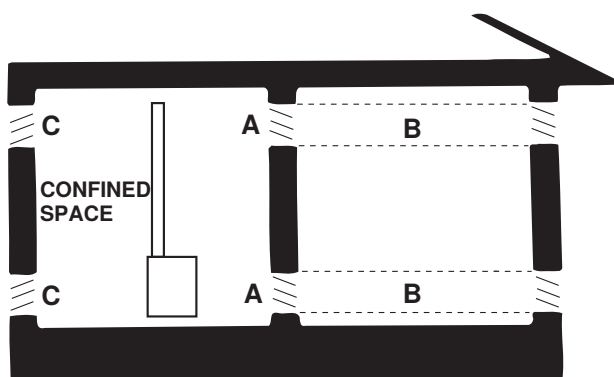

Figure 1. Confined Space Combustion Air Openings (Refer to **Table 1**)
- Even a slight leak can create a negative pressure condition in a confined space and can affect combustion. Do not install a unit in a confined space without providing wall openings leading to and from the space. Depending on the combustion air source, provide openings near the floor and ceiling for ventilation and air for combustion as shown in **Figure 1** and as listed in **Table 1**.
*See **Figure 1**.